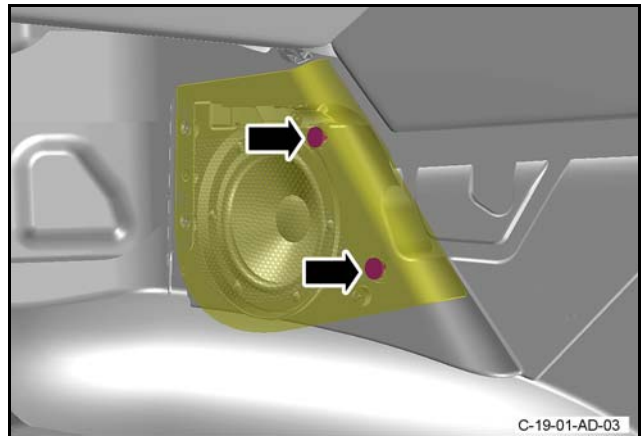

Figure 20
41. Engage the two tabs on the grille for the footwell speaker that attach it to the footwell speaker and attach the grille (refer to Figure 20).